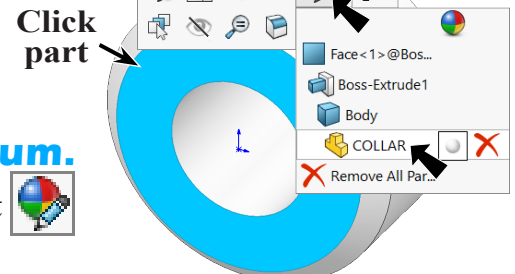

Fig. 9
Step 1. Click the part to select part, click **Appearances Callout**  on the context toolbar and click **COLLAR** , **Fig. 9**.